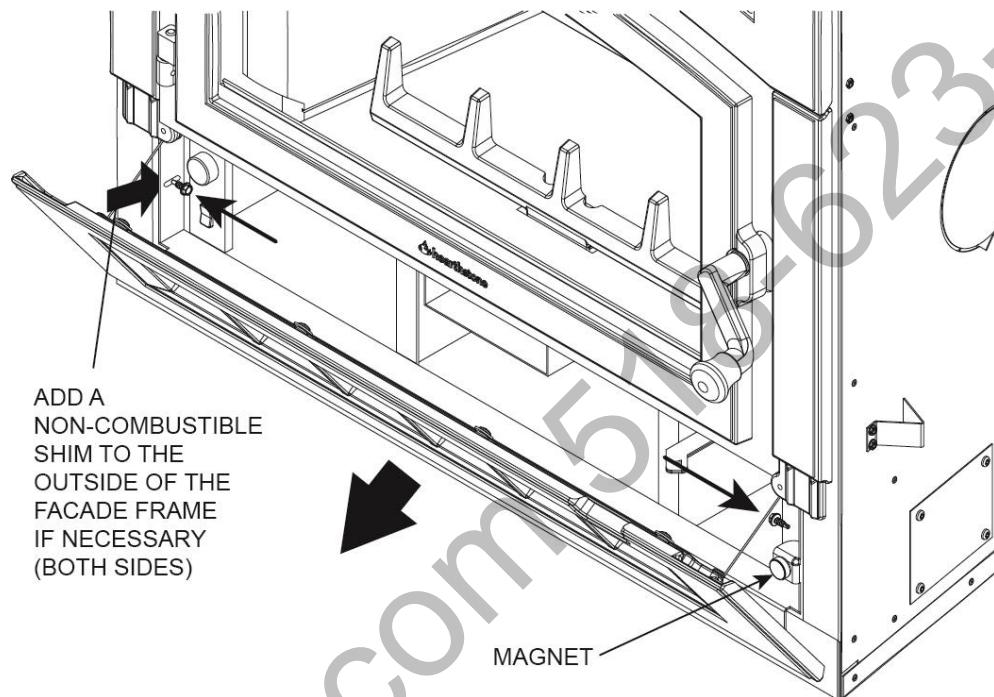

Figure 27
1. Open the Blower door. (Figure 27)